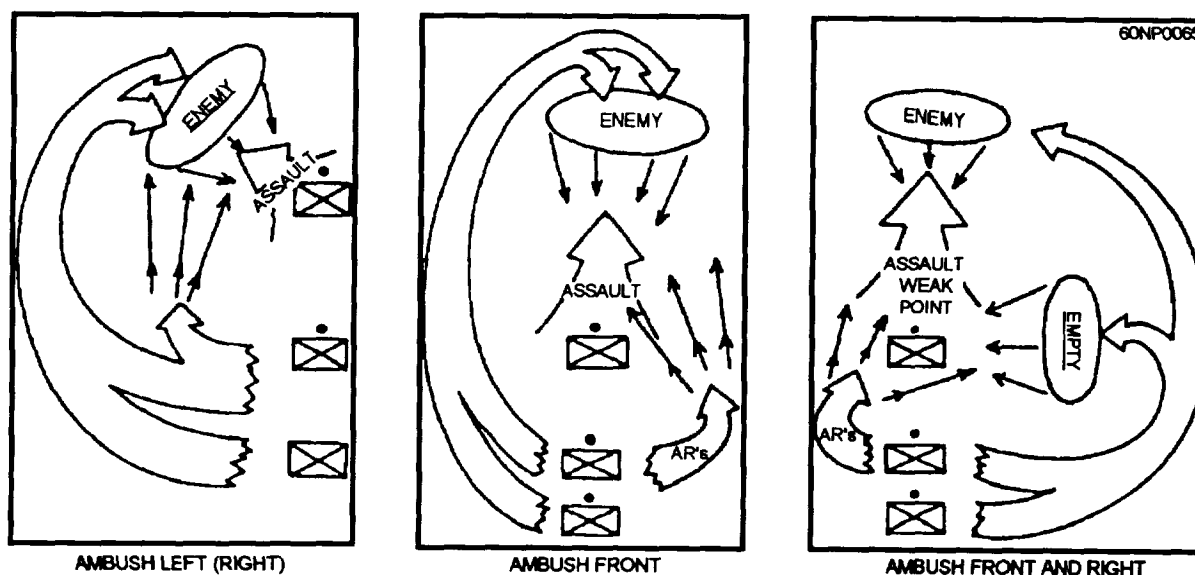

Figure 5-7.—Encircling attack.
4. The encircling attack units move out in a prearranged envelopment of the enemy flank and/or rear (fig. 5-7).